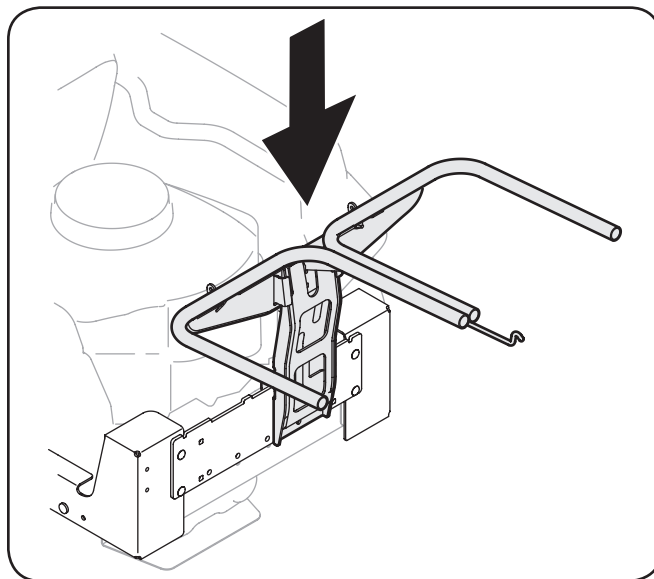

Figure 4-6
3. Install the bagger hanger assembly onto the mounting assembly on the tractor by hooking it over the hitch plate as in Fig. 4-6.